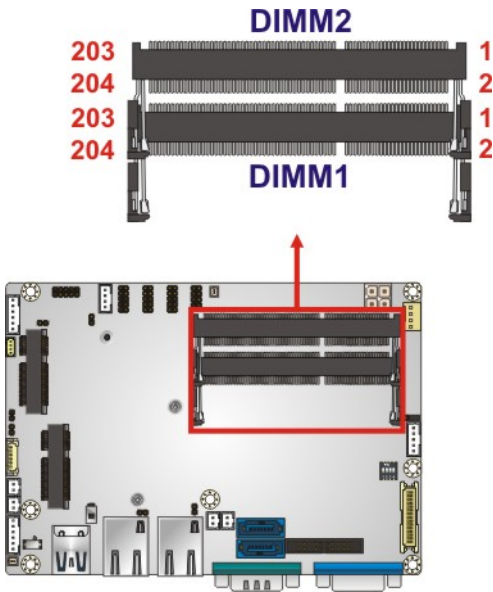

Figure 3-25: SO-DIMM Slot Locations
- CN Location: See Figure 3-25